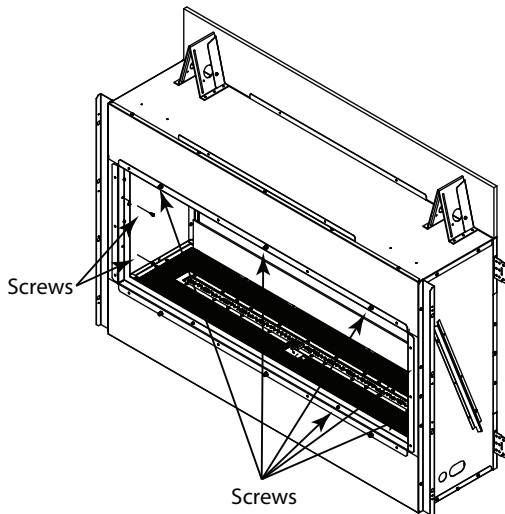

Figure 4
8. Attach the inner glass assembly frame to the appliance columns as well as the top and bottom face with screws. See Figure 4.